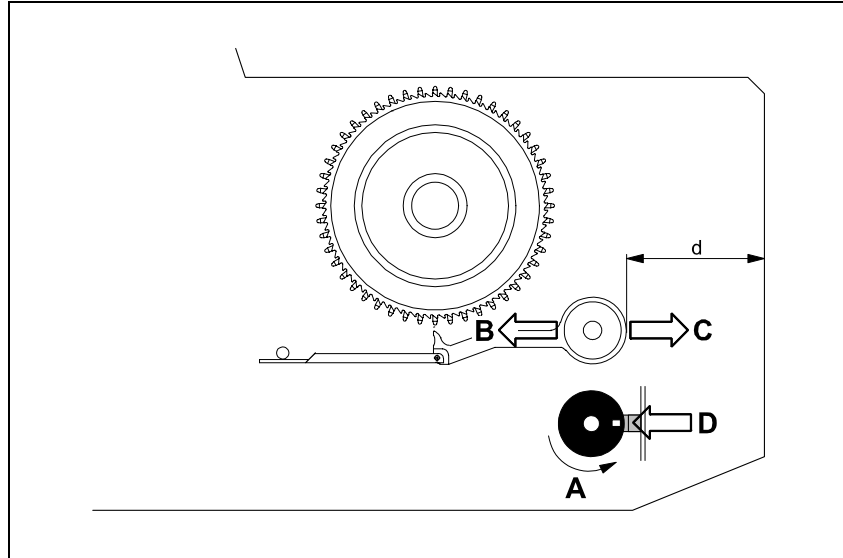

Figure 12-11. Feeder arm gap
2. Adjust the gap between the feeder wheels and the feeder arm tips ('A' in Figure 12-11) by turning the solenoid bar. The gap should be 0.5mm - 1.0mm.